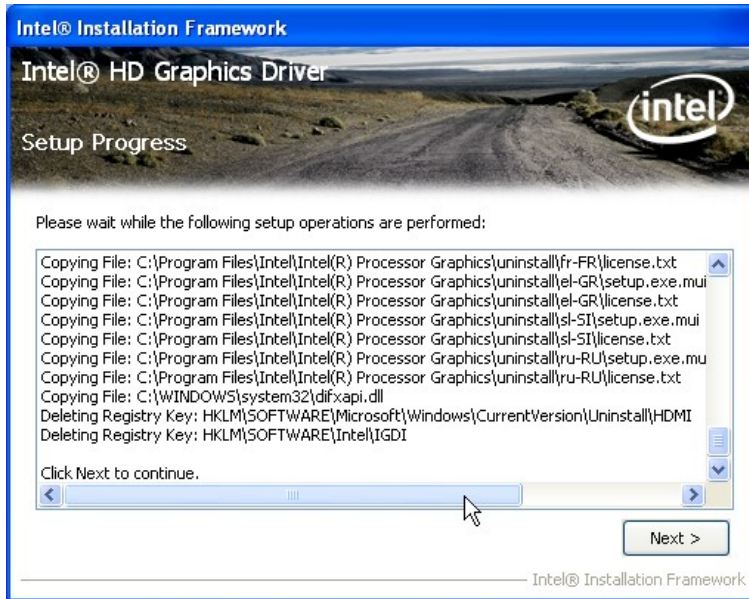

Figure 6-11: Graphics Driver Setup Operations
Step 8: Setup Operations are performed as shown in Figure 6-11.